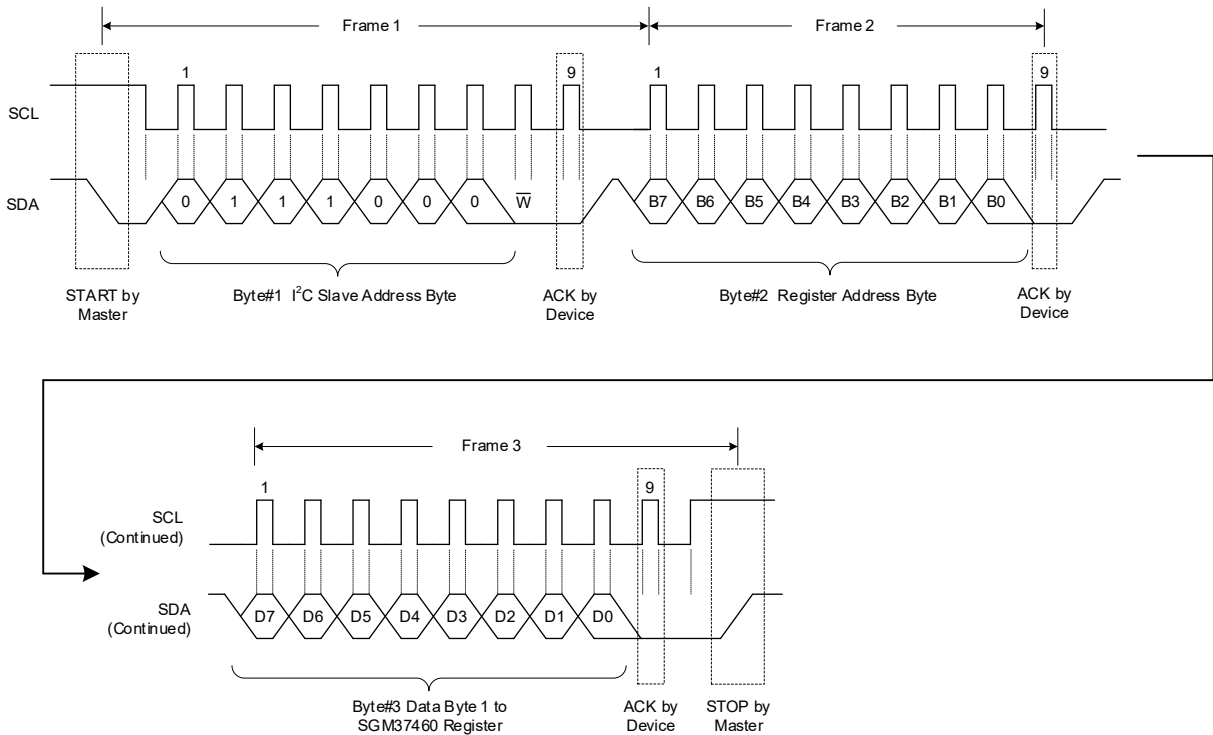

Figure 10. A Single Write Transaction
**WRITE:** If the master wants to write in the register, the third byte can be written directly as shown in Figure 10 for a single write data transfer. After receiving the ACK, master may issue a STOP condition to end the transaction or send the next register data, which will be written to the next address in a slave as multi-write. A STOP is needed after sending the last data.